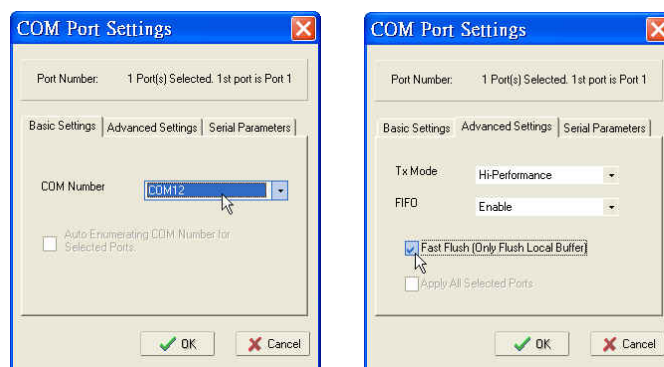

Figure A-6 Com port setting
- As Figure A-6 shown, select a COM Number in **Basic Settings** page and check **Fast Flush** in **Advanced Settings** page, then click **OK** for confirmation and quit from the program. For this case, IP address of 64-Logger is already mapped to COM 12. By using COM 12 to establish communication connection in Chroma 64LV program afterward.